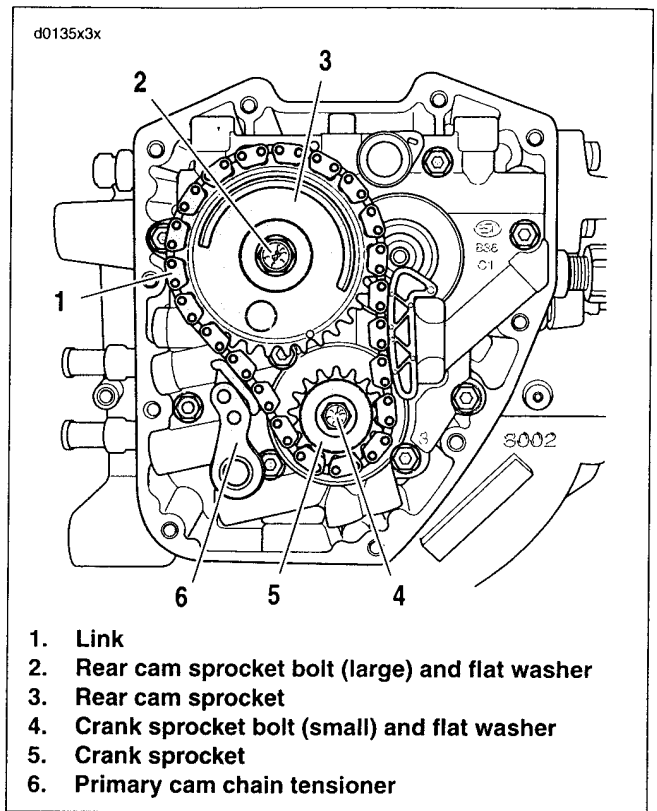

Figure 3-73. Cam Support Plate Assembly
12. See Figure 3-73. Apply a light amount of clean H-D 20W50 oil to splines on rear cam. Install the primary cam chain and sprocket assembly.
- a. Place the rear cam sprocket (3) in the cam chain. Hold the sprocket allowing the chain to hang loose. Rotate the sprocket so that the punch mark on the sprocket root faces straight downward.